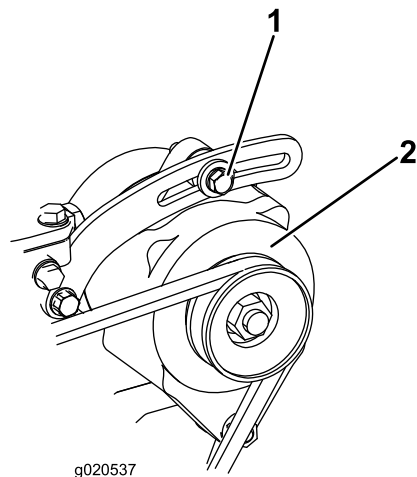

Figure 91
1. If the deflection is not 10 mm (3/8 inch), loosen the alternator mounting bolts (Figure 91).